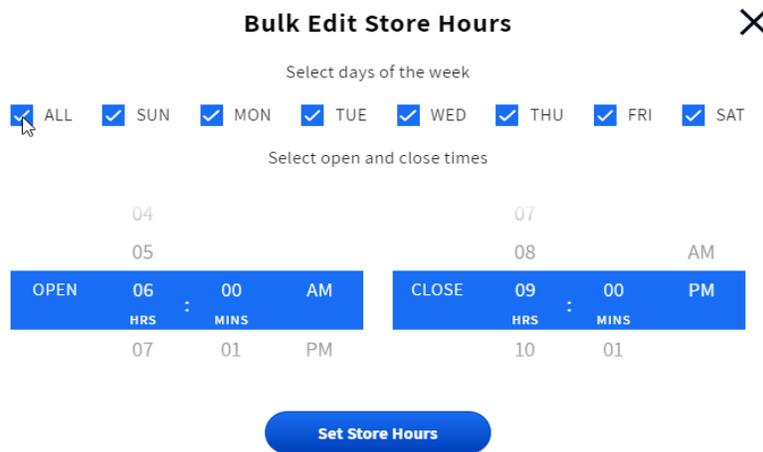

Fig. 5.2
**Store Hours:** Open and Close times are recorded here. Click in the time field and use the adjustment counter to set. If your store hours are the same for every day of the week tap/click on the **Bulk Edit** button. Here you can select an opening and closing time and then check the ALL box. This action automatically selects all the days of the week. See Fig. 5.2.
**NOTE:** At least one “days of the week” box must be selected for the Set Store Hours button to become active (it turns blue when active as in Fig. 5.2).